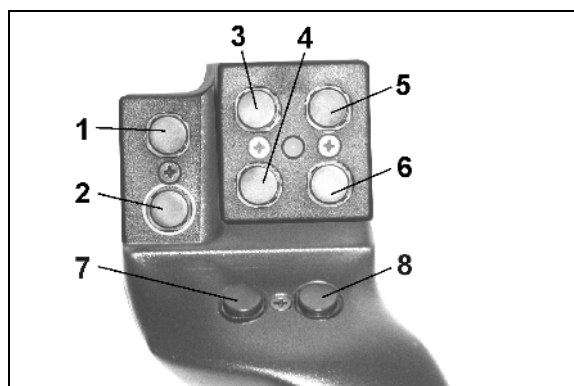
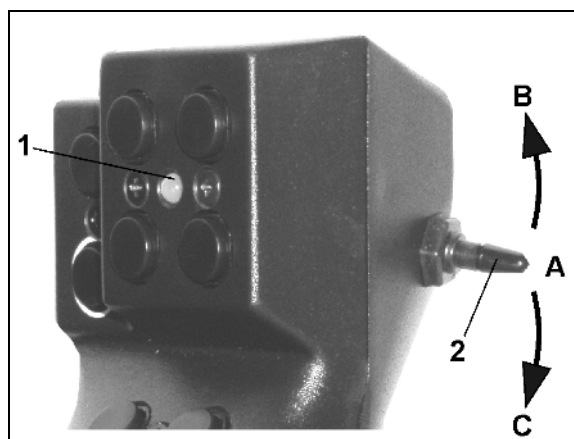

Fig. 111
Fig. 112
The multi-function stick (Fig. 111) has eight buttons (1 - 8) available for operating the machine. In addition, the assignment of the keys can be changed 3-fold by means of a switch (Fig. 112/2).
-  central position (Fig. 112/A); the switch can be pressed in the following directions:
-  up (Fig. 112/B) or
-  down (Fig. 112/C).
The position of the switch is indicated by an LED (Fig. 112/1).